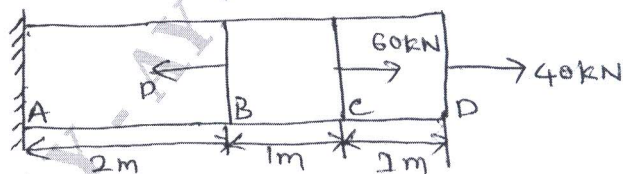

Fig.Q.2(b)
- b. Determine the magnitude of the load P necessary to produce zero net change in the length of the straight bar shown in Fig.Q.2(b)  $A = 400\text{mm}^2$ . (06 Marks)